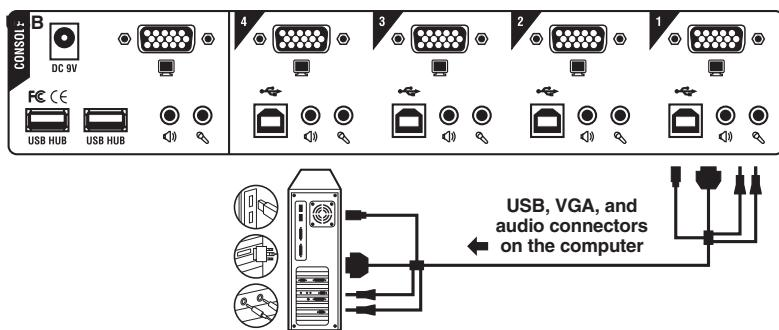

Figure 3-5. USB computer connections.
1. Connect the ServSwitch DT Pro II's USB cable's (EHN7002021-0006) USB connector to the PC1 USB port on the back of the ServSwitch. Connect the cable's VGA connector to the ServSwitch unit's PC1 VGA connector. See Figure 3-5.